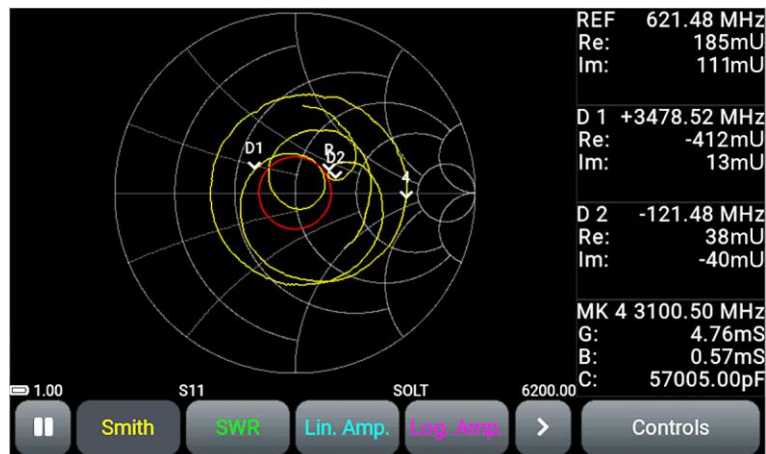

Figure 8.1 - Device screen
8.2. The interface control buttons are located under the information bar (figure 8.1):